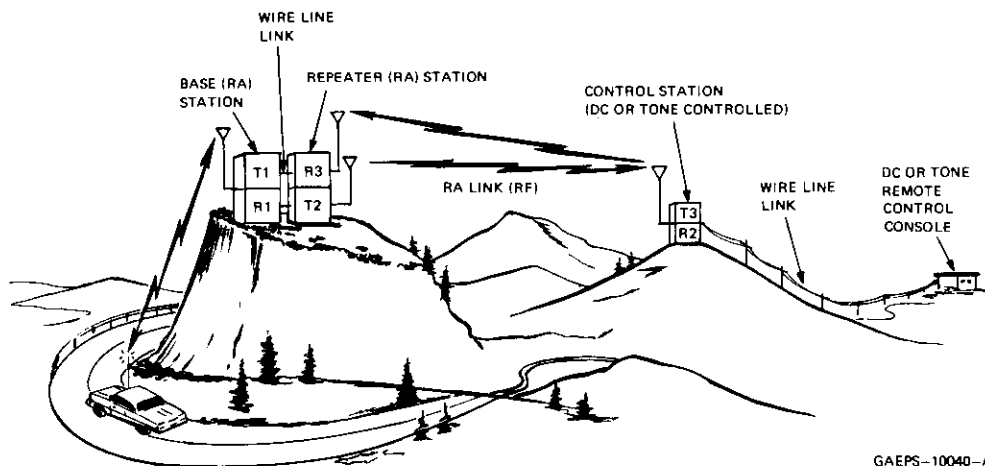

Figure 1. Typical Repeater (RA) System
1.1.2 By definition, an "RA" link (part of a "radio repeater (RA) system") is the radio equipment required to replace the usual wire-line control when operating a remote base station from its control point. The remote base station is termed an RA base. The repeater station that controls the RA base is called an RA repeater. It is co-located with the RA base and interconnected by a single, multi-conductor cable (customer supplied). A console and/or control station is located where the normal dispatch operations are carried out. See Figures 1 and 2.
1.3.2 A repeater (RA) station in conjunction with a base (RA) station and two or more remote stations, such as a mobile station and a control station, together form a “radio repeater (RA) system”. See Figure 1.
1.4.2 In the repeater (RA) system (refer to Figure 1) a received message at the repeater (RA) station actuates the squelch gate in that station. This keys the companion base (RA) station which retransmits the message to mobile units. Only transmitter turn-on and turn-off control of the base (RA) station is possible in a repeater (RA) system, determined by receiver quieting and the squelch gate module in the repeater (RA) station.